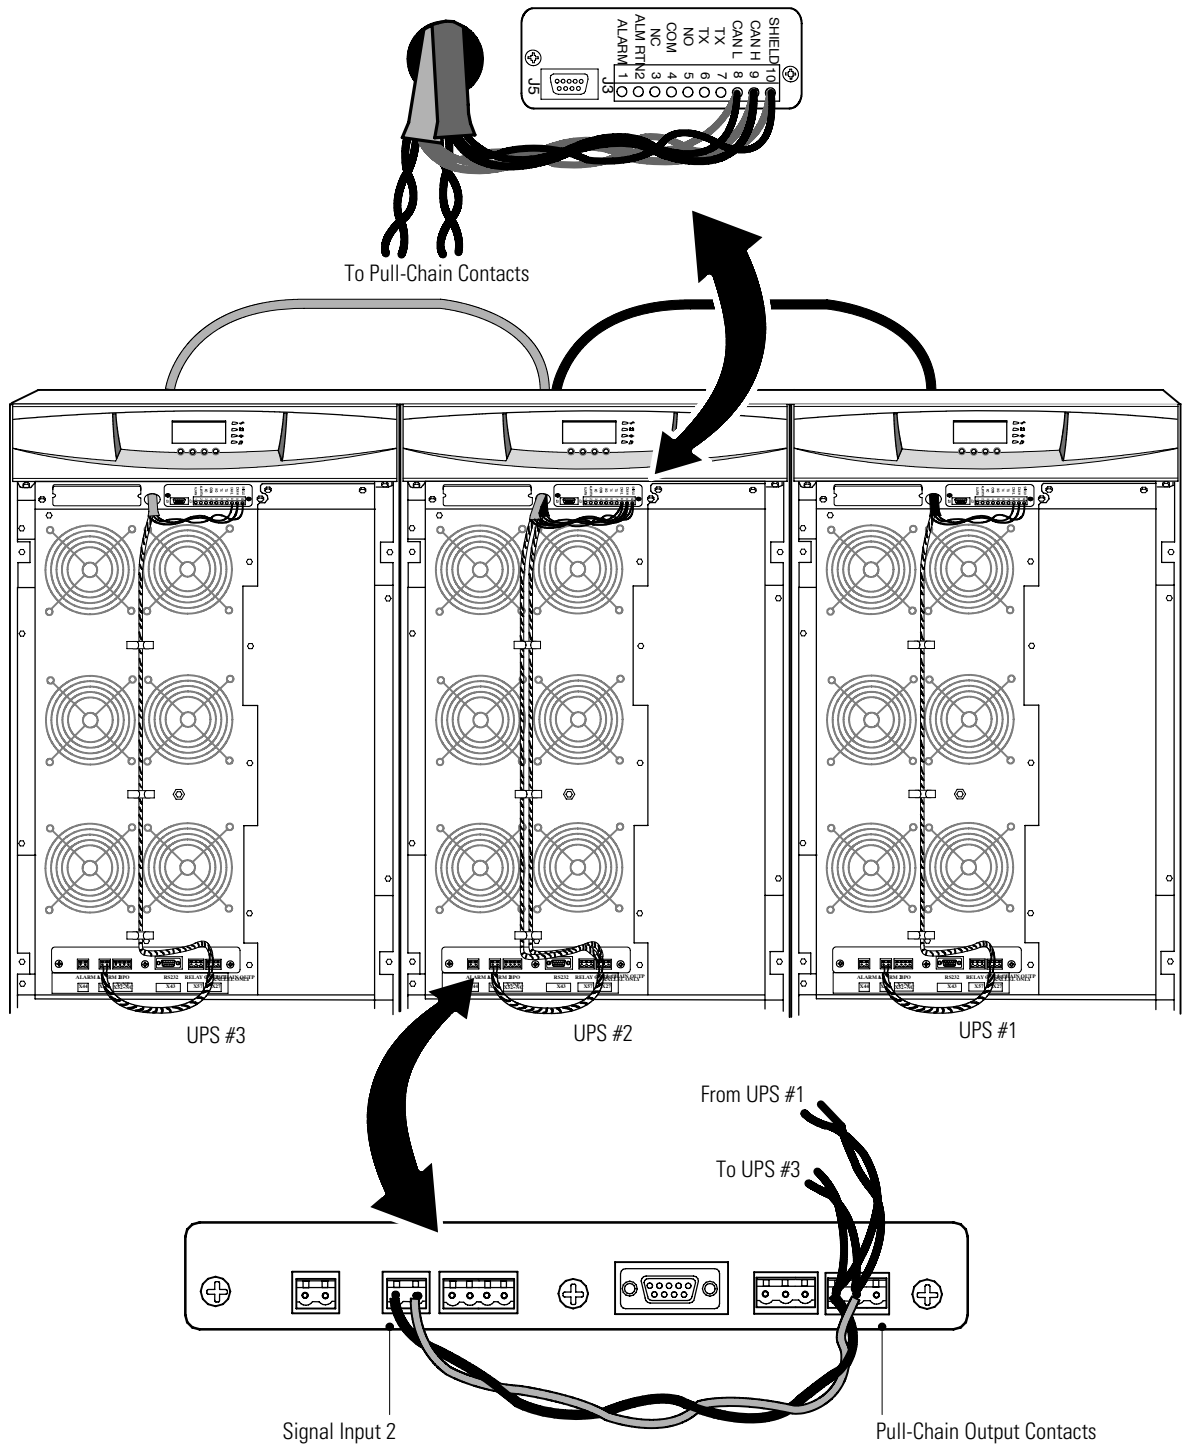

Figure 18. CAN Bridge Card and Pull-Chain Wiring
9. Install the CAN Bridge Card wiring between each UPS (see Figure 18 on page 25).
11. Wire the pull-chain wiring to Signal Input 2 on each UPS and daisy chain the wiring to each UPS as shown in Figure 18. Be sure to check correct polarity: